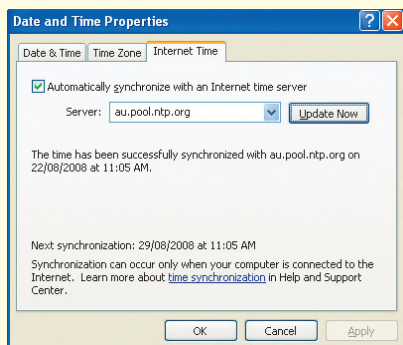

Fig.11: this WinXP dialogue is used to enable your PC to synchronise with an internet time server.
- 2) Click the 'Internet Time' tab on the resulting 'Date and Time Properties' dialogue to bring up the dialogue shown in Fig.11.